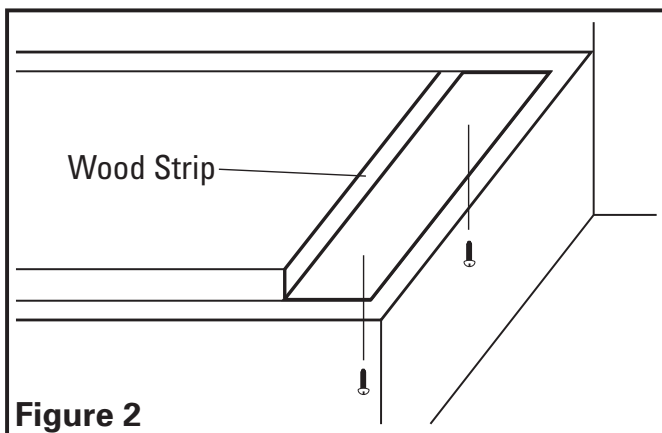

**Figure 1**
3. Remove wire compartment cover screw and then lamp cover by squeezing the two tabs together (**Figure 1**).